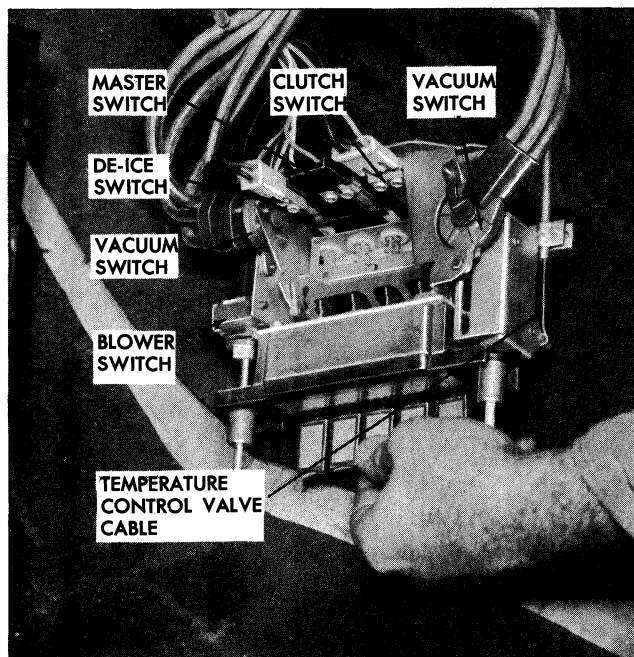

Fig. 4-8 Removing Control Panel Assembly
- NOTE: Identify wire connectors to switches and vacuum connectors for correct reassembly and remove. (See Fig. 4-8).*